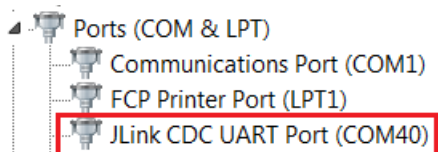

Figure 3. Locating the RSL10_EVB COM port
- Use the Windows™ Device Manager and locate the COM port assigned to your RSL10 EVB (COM40, in this example), as illustrated below in the figure "Locating the RSL10_EVB COM port" (Figure 3).